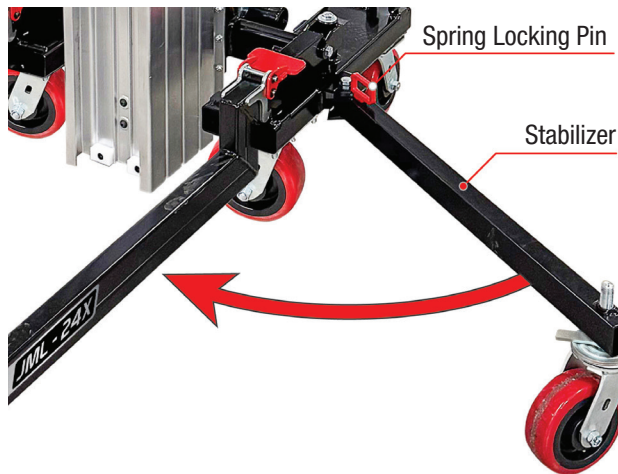

Figure 7-1: Storing Stabilizer Legs
2. Unlock stabilizer legs by pulling up the spring locking pins. Rotate each stabilizer leg from the wide-stance stabilizing position to the front position (parallel to the lifting forks). Spring locking pin will snap into place to lock stabilizing leg in this position (see Figure 7-1).